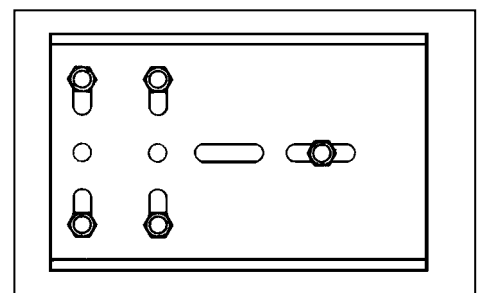

Fig. 2: Mounting Instruction
- B. The winch should be mounted, using five 3/8" dia. S.A.E. Grade 5 bolts (not supplied). Four bolts should attach the winch to the mounting structure utilizing the outside rear holes or slots. The fifth bolt should be inserted through the winch frame and mounting structure in a manner to utilize the foremost remaining frame slot (hole) (Fig. 2).